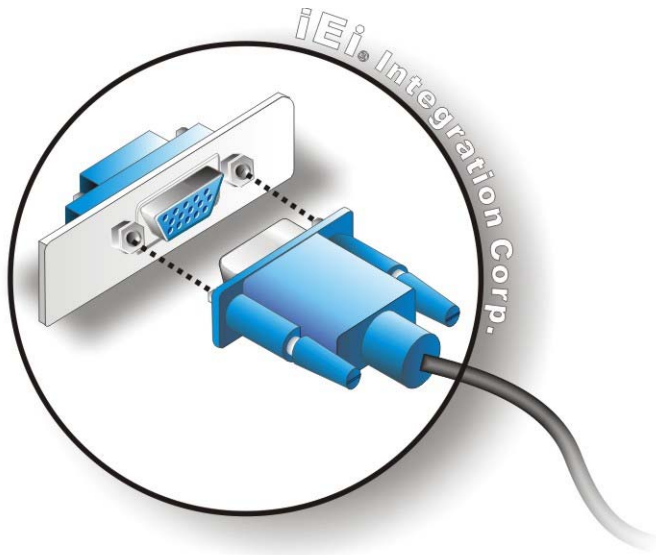

Figure 4-18: VGA Connector
Step 3: **Insert the VGA connector** Once the connectors are properly aligned with the insert the male connector from the VGA screen into the female connector on the PCIE-Q670 Series. See **Figure 4-18**.